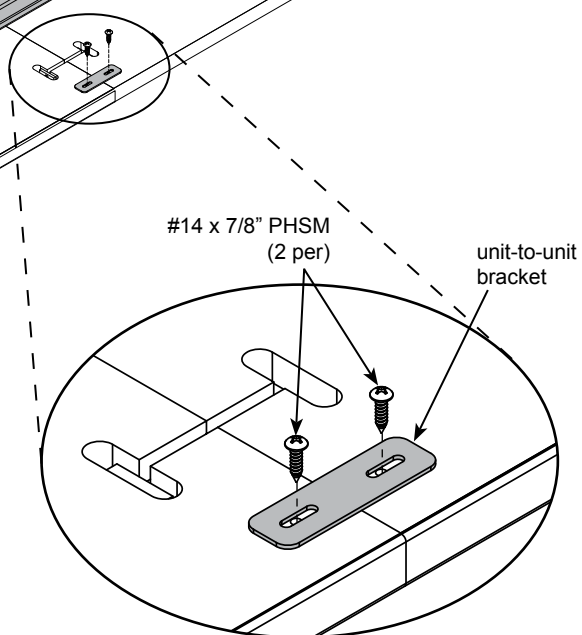

**Figure 4D**
5. Tighten all draw bolts evenly with a 7/16" open end wrench. **Figure 4D**. Each bolt should be tightened equally until the assembly is snug. Do not overtighten bolts.